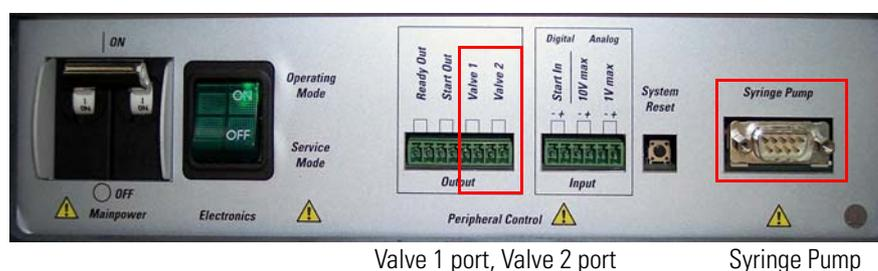

Figure B-14. Power panel of the Exactive MS
1. Use the RS232 interface cable to connect the syringe contact on the power panel of the Exactive MS detector to the RS232 serial port at the rear side of the syringe pump. See Figure B-14. The syringe contact allows controlling the syringe pump by the instrument software.
- a. Connect the interface cable to the mating connector on the back of the MX Series II Module. The Valve 1 port and the Valve 2 port of the MS detector are located on the power panel of the Exactive. See Figure B-14.